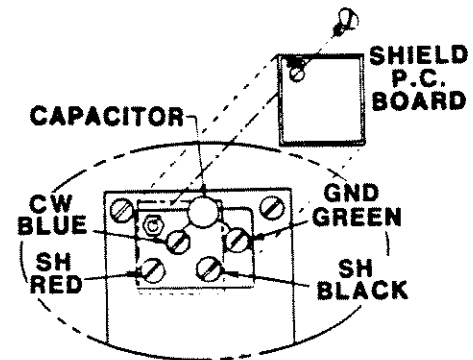

Fig.5-1
A. Disconnect the sensor cable from the electronic unit. Leave the power connected. See Figure 5-1.